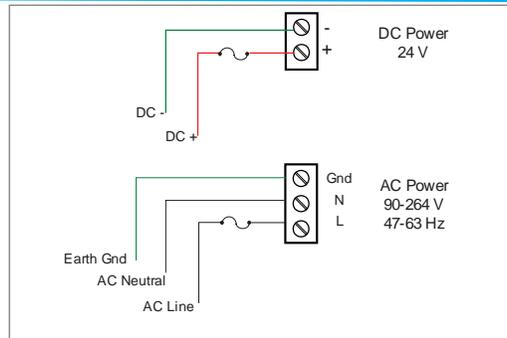

Fig 7: Power Connection
- Use two-terminal power connector as shown in Figure 7.